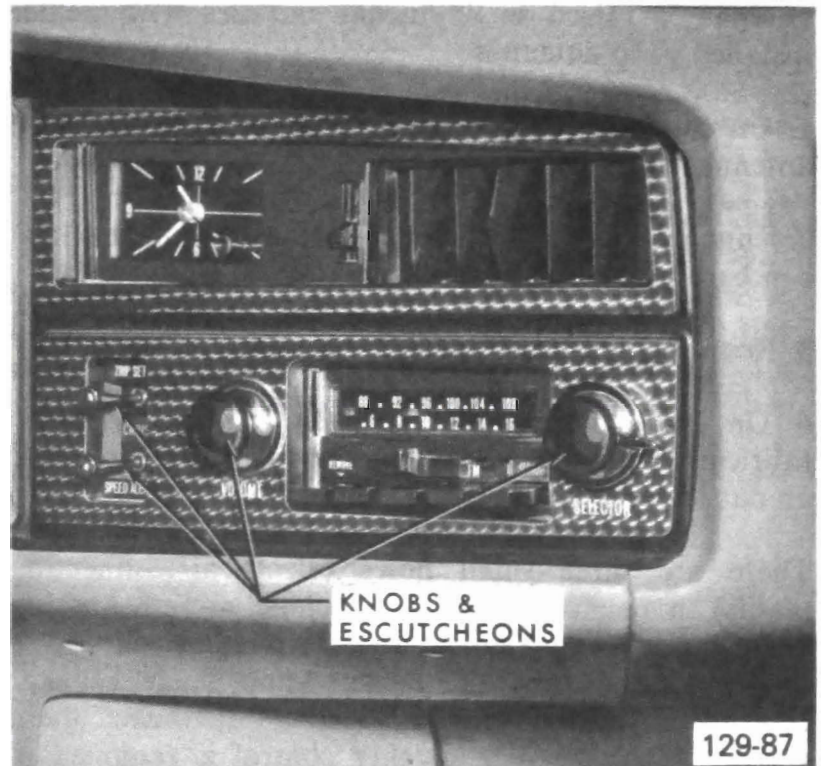

Figure 129-2
1. Remove knobs and escutcheons from radio control shafts. If car is equipped with trip set and/or speed alert, hold the shafts and unscrew the cone-shaped knobs to allow removal of the face plate. See Figure 129-2.
8. Install radio knobs and escutcheons. See Figure 129-2.